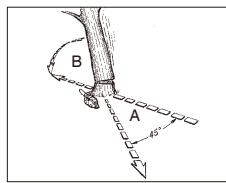

Fig. 11A
WARNING: A retreat path (A) should be planned and cleared as necessary before cuts are started. The retreat path should extend back and diagonally to the rear of the expected line of fall, as illustrated in Fig.11A.
⚠️ WARNING: As the felling cut gets close to the hinge, the tree should begin to fall. When tree begins to fall, remove saw from cut, stop engine, put chain saw down, and leave area along retreat path (Fig.11A).